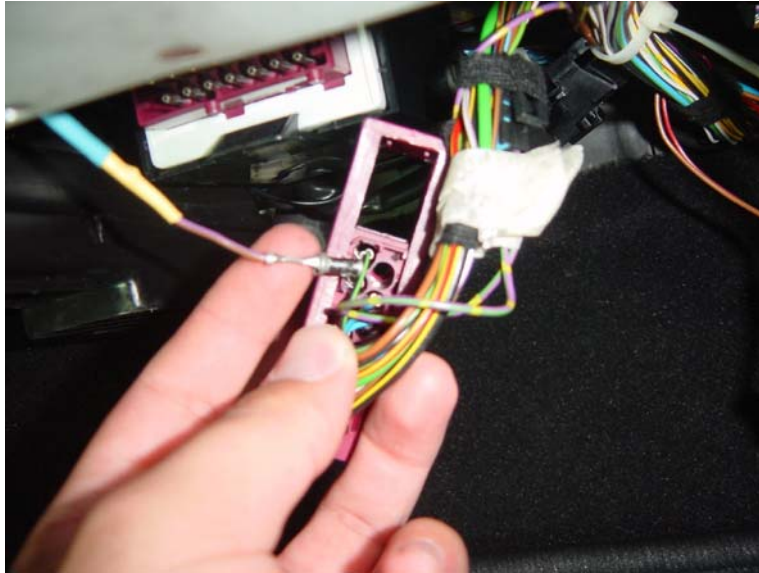

Figure 13 – Route to empty Pin15 of X1659 Connector.
- i) Route X1071-Pin1 (black wire/pin) to the ZKE IV Control Module behind the glovebox. Route Pin1 from the OBC location at the center console, behind mounting bracket (**Figure 10**), toward the passenger side footwell, up to the glovebox crossmember (**Figure 11, 12**), through the crossmember (behind black air duct) and down to the X1659 connector (**Figure 13**). Plug the X1071-Pin1 pin/wire into the empty slot 15 of the X1659 red connector.